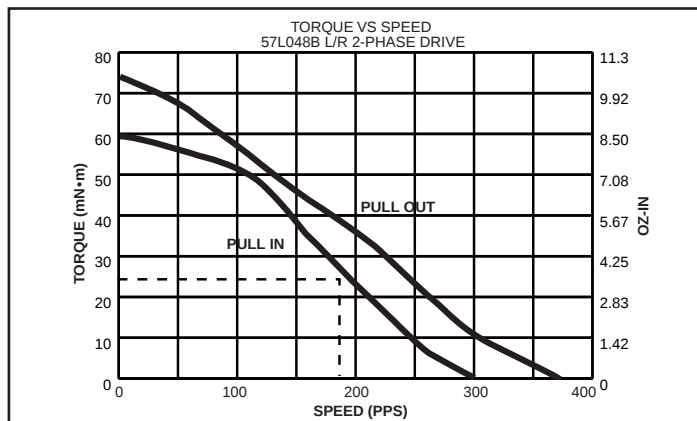

Figure 6: Torque/Speed — Frictional Load.
2. Referring to Fig. 6, the maximum *PULL IN* error rate with a torque of 25 mN•m is 185 steps/sec. (It is assumed no acceleration control is provided.)